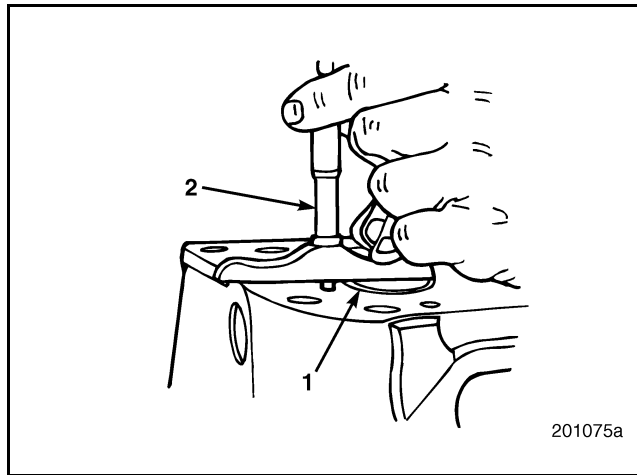
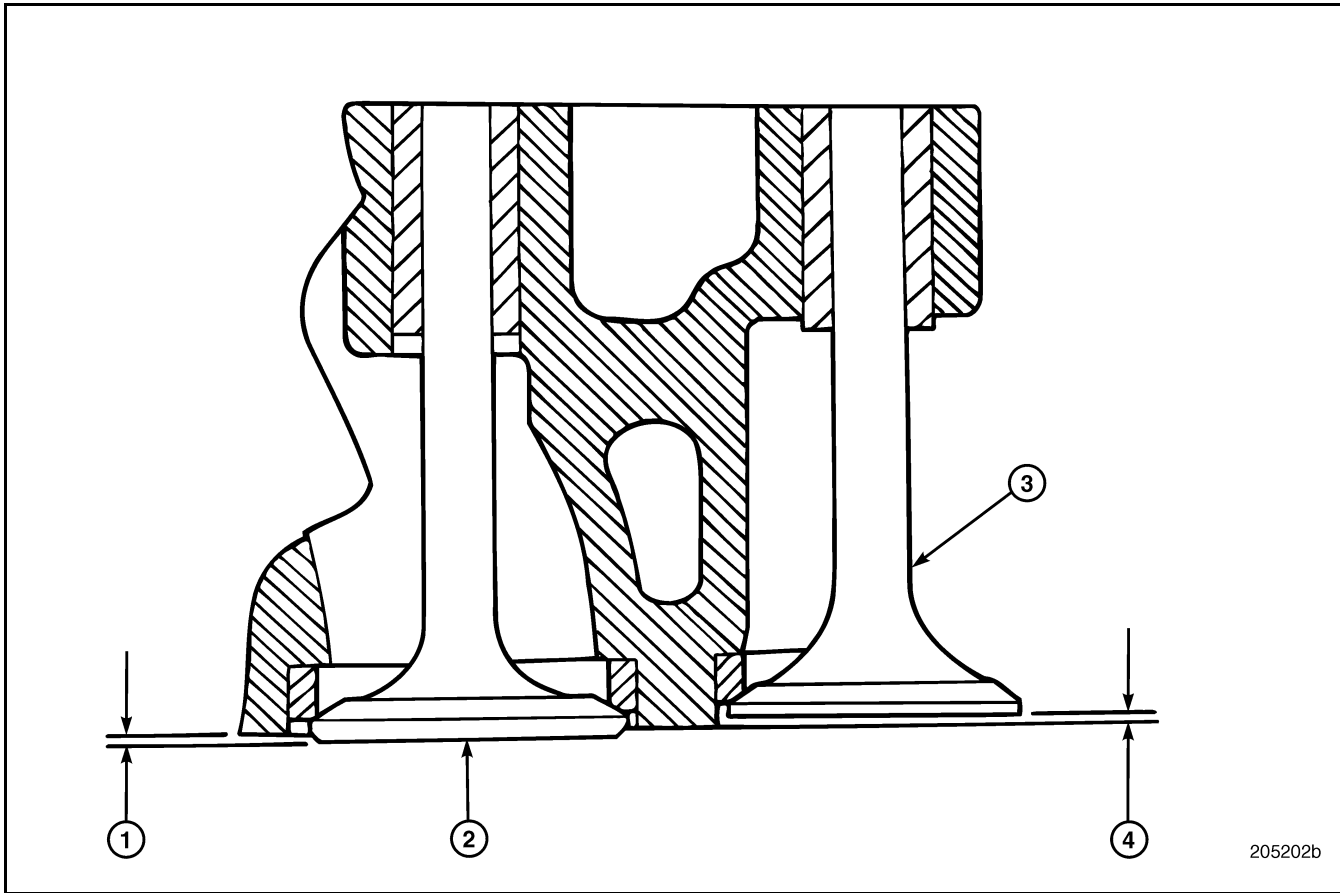

Figure 285 — Checking Valve Assembly Height
Figure 286 — Inlet/Exhaust Valve Head Height/Depth Measurement
10. After the valves are installed, check each inlet valve for head height above the cylinder deck. The protrusion dimension for inlet valves should be $0.0425 +0.009/-0.007$ inch ($1.0795 +0.229/-0.178$ mm). Refer to Figure 285 and Figure 286.